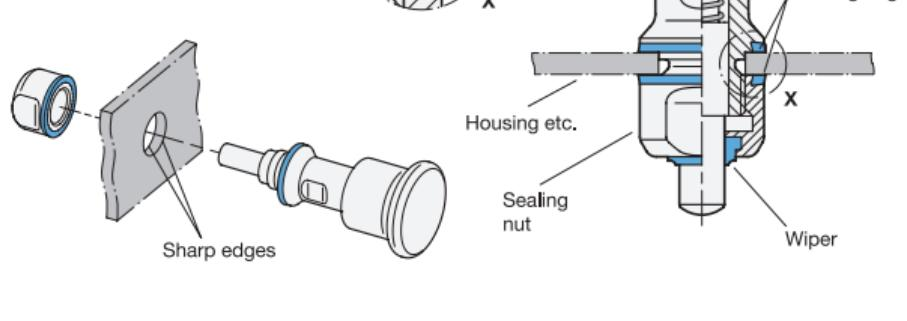

Fig. 2
- The mounting hole must be made such that the metal recesses within the sealing rings rest as fully as possible against the underlying surface to enable tensioning against the block (metallic stop) (tolerance of $+0.05/-0.2$). The sealing rings must rest fully against the underlying surface (Fig. 2).